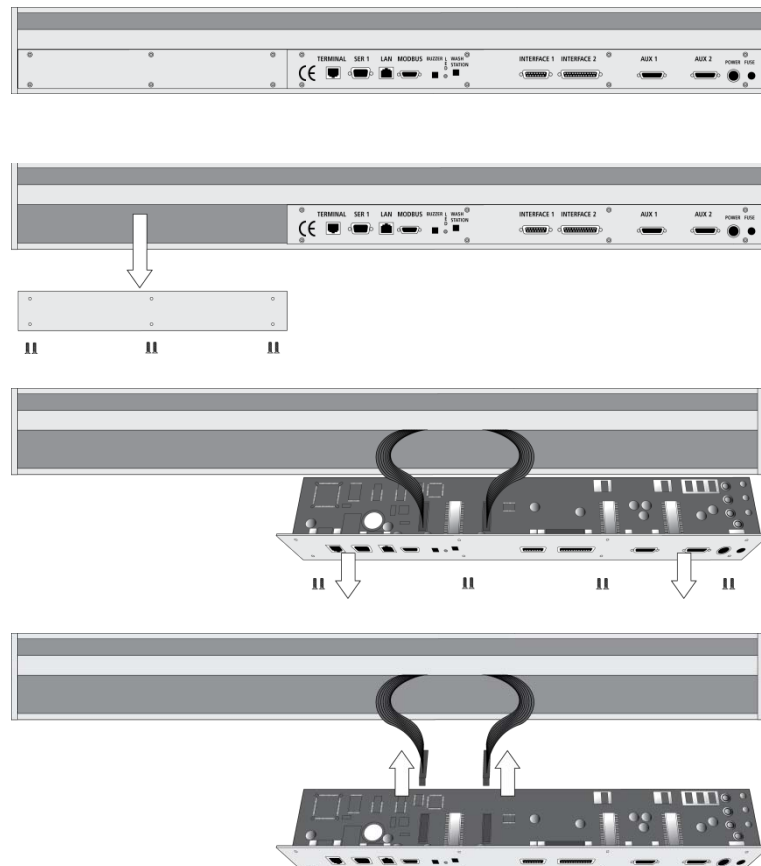

Figure 58. Replacing Control-*xt* Board
1. Follow the sequence shown in Figure 58 to detach and release the Control-*xt* board from its position inside the X-axis.